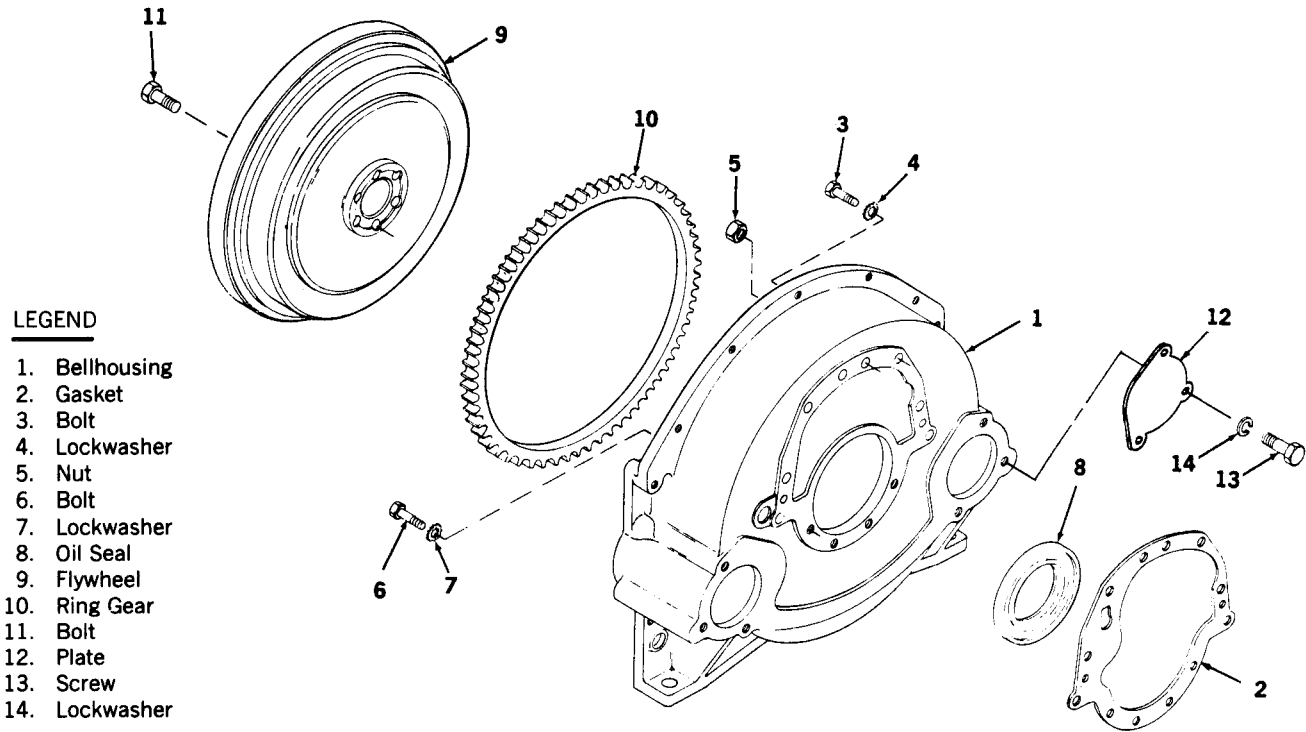

Figure 3-20. Flywheel and Bellhousing Assembly
- c. Remove the six flywheel bolts (11, figure 3-20).
- d. Using a pry bar, pull flywheel (9) from crankshaft.
- e. Do not attempt to remove ring gear (10) from flywheel unless it is damaged and must be replaced.
- b. Inspect ring gear (10, figure 3-20) for broken or cracked teeth. If damage is evident and replacement is necessary, drive gear from flywheel with a blunt chisel.
- c. Inspect flywheel (9) for distortion, cracks, or other damage or wear. Replace damaged flywheel.
- d. To install new ring gear (10), heat it in an oven or with a heating torch to approximately 600°F (315.6°C). Do not overheat. Place heated ring gear on flywheel and quickly drive onto flywheel until gear is firmly seated.
- b. Turn flywheel (9, figure 3-20) so that dead center timing mark is in line with timing hole in bellhousing. Install flywheel on crankshaft. Note that one of six bolts (11) is off center so that flywheel can only be installed in one position. Add sealant on bolts (11) on installation. Draw flywheel onto crankshaft by tightening six bolts alternately and evenly. Torque bolts to 80 foot-pounds.
g. Remove bellhousing attaching bolts (3 and 6, figure 3-20), stud nuts (5), and lockwashers (4 and 7).
h. Pull bellhousing (1) away from engine. It may be necessary to tap housing with a soft mallet to loosen it from dowels or from gasket (2) sticking to block.
i. Remove rear oil seal (8).
a. Discard gasket (2, figure 3-20) and seal (8).
a. Install new oil seal (8, figure 3-20) in bellhousing, using a small amount of sealing compound in bore before pressing in seal. If new seal is pre-coated, sealing compound is not required. Cement new gasket (2) to bell housing, allowing cement to dry sufficiently to prevent gasket from slipping at installation.
c. Apply thin coat of oil soap to seal (8) and seal surface of crankshaft. If seal is already oil treated, additional lubricant is not required. Install seal (8). Keep seal surface clean during assembly. Carefully place bellhousing on cylinder block so that seal is not damaged as it engages crankshaft. Align so that dowels properly enter their respective holes. Seat bellhousing (1) to engine and install bolts (3 and 6), nuts (5), and lockwashers (4 and 7), but do not tighten. Coat bolts (6) with sealant prior to installation.